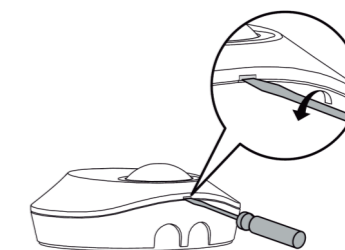

FIG. 7
3.4.1.1 Use flat head screwdriver to take off the decorative cover (See FIG.7).